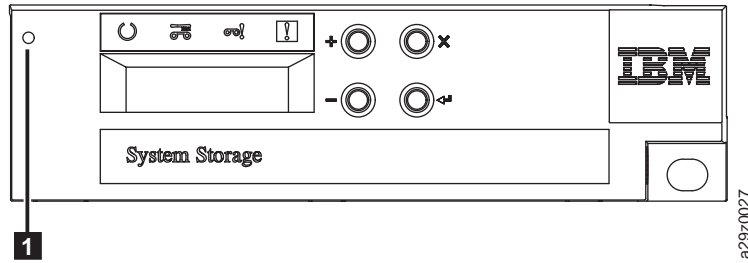

Figure 129. Cartridge magazine lock release access hole
1. On the front panel, locate the access hole for the cartridge magazine lock release mechanism to the left of the Operator Panel (**1** in Figure 129 on page 142).